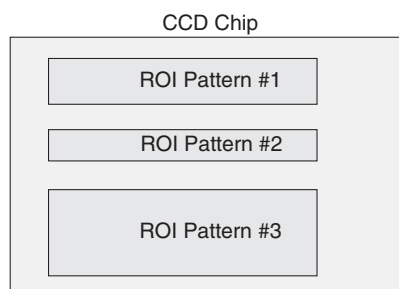

Figure 134. Spectroscopy Mode Multiple Partial-width ROIs
4. Defining the region with the mouse and then changing parameter values via the keyboard before storing the pattern. This allows you to change a full-width ROI created by mouse selection to a partial-width ROI like the one in Figure 134.